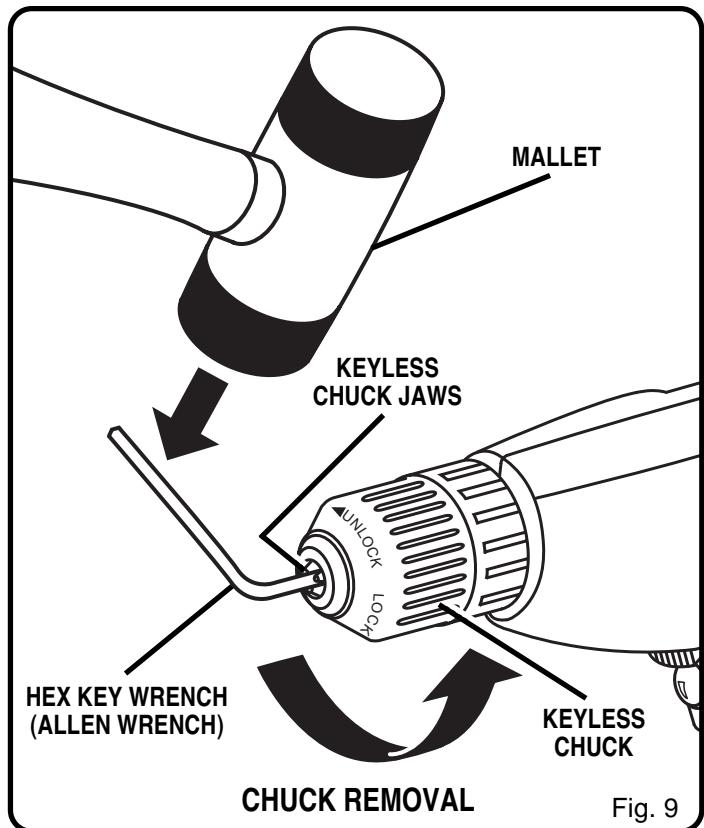

Fig. 9
See Figure 9.
6. It can now be unscrewed by hand. *See Figure 9.*